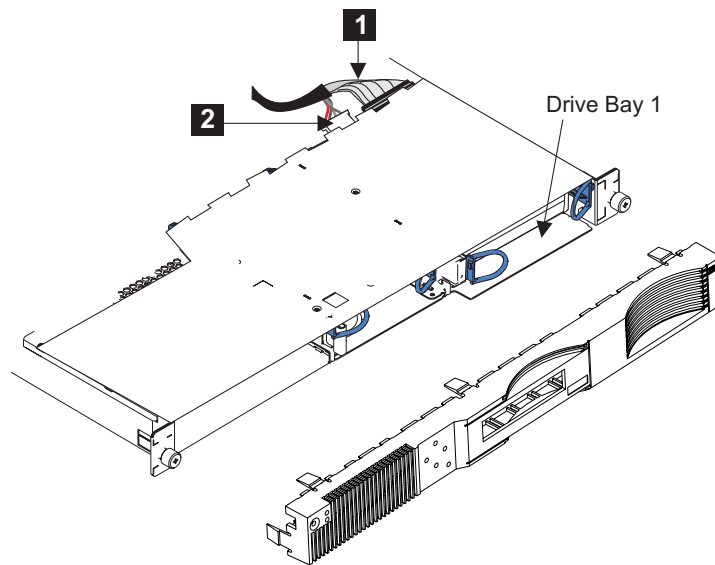

Figure 115. Replacing the SAN Volume Controller 2145-4F2 disk drive cables
1. Connect the SCSI signal connector **1** and the power connector **2** to the back of the disk drive, then replace the cable. See Figure 115.